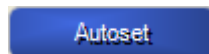

Figure 1-17: The Autoset Button
13. Click the **Autoset** button in the *Channel Editor* as shown in Figure 1-17.